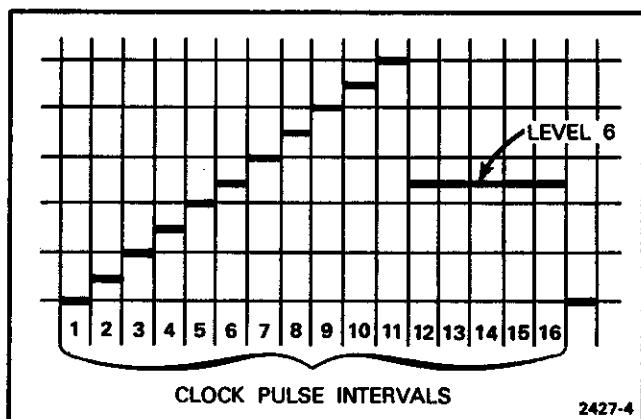

Figure 3-2. Staircase waveform at output of U179 (TP 181).
Clock pulses increment counter U130, whose four outputs connect to flip-flop (FF) U150 and multiplexer U160. U150 acts as a select control for U160. Starting from a count of zero, U130 increments with each Clock pulse. The eleventh Clock pulse causes logic levels of 1010 (HI, LO, HI, LO) on the Q_A, Q_B, Q_C, and Q_D outputs of U130, which causes U150 to switch its Q output to a high-logic level. This high-logic level causes multiplexer U160 to connect its B inputs to its output. The B inputs to U160 for Clock pulses 12 through 15 are 0101. This causes D/A converter U170 to produce a constant output at the sixth level of the staircase for a time equal to the duration of five clock intervals. The five-times duration produces a brighter display on the cathode-ray tube (crt) at the center line. Figure 3-2 shows the staircase waveform that appears at the output of U179.